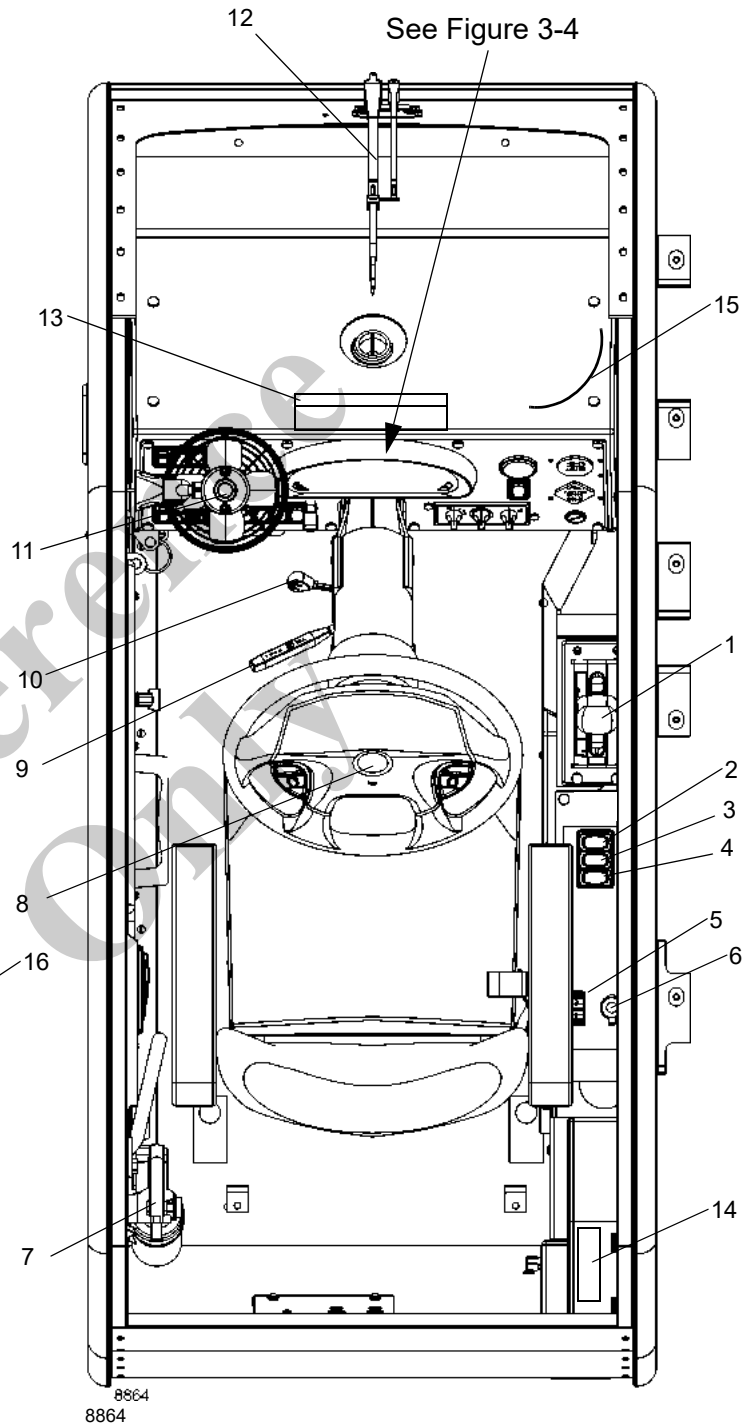

FIGURE 3-1
The transmission shift lever (1), (Figure 3-1) is located on the right side of the cab. It is used to select the transmission gears. Refer to *Shifting Gears*, page 4-24 of this *Operator Manual*.
The spare switch/indicators (2, 3, 4), (Figure 3-1) may be populated with future options.
The USB ports (5), (Figure 3-1) are used to download system information from the data logger.
The 12 volt outlet (6), (Figure 3-1) provides a place to plug in a 12 volt accessory with a maximum current draw of 3 amps.
The fire extinguisher (7), (Figure 3-1) is mounted on the left inside rear of the cab.
The horn button (8), (Figure 3-1) is located in the center of the steering wheel. Depressing the horn button energizes the circuit sounding the horn.
The turn signal lever (9), (Figure 3-1) is located on the steering column. Positioning the lever down causes the indicator light on the console and the left front and left rear signals to flash. Positioning the lever up causes the indicator light on the console and the right front and right rear signals to flash. Pull back for high beam and push forward for low beam.
The steering column tilt/telescope lever (10), (Figure 3-1) is located on the steering column behind the turn signal lever. Pulling back on the lever allows the steering column to be tilted to seven positions. Pushing the lever allows the steering column to be telescoped.
The cab circulating fan (11), (Figure 3-1) is mounted on the left front of the cab and is controlled by a two speed rocker switch on the base of the fan.
The windshield wiper (12), (Figure 3-1) removes moisture from the windshield. The washer applies a liquid to the windshield so the wiper can clean it.
The carrier camera display (13), (Figure 3-1) can be configured to display either the back up camera or the right turn camera or both, see *Carrier Camera Display Setup*, page 4-87.
The dome light (14), (Figure 3-1) with integral switch is used to illuminate the cab.
Pull down on the air horn control (15), (Figure 3-1) to sound the air horn.
The throttle pedal (16), (Figure 3-1) is located on the right side of the cab floor. It is used to increase the engine RPM.
The brake pedal (17), (Figure 3-1) is located on the right side of the cab floor and is used to apply the service brakes.
The clutch pedal (18), (Figure 3-1) manual transmission only, is located on the left side of the cab floor and is used to disengage and engage the engine with the transmission.